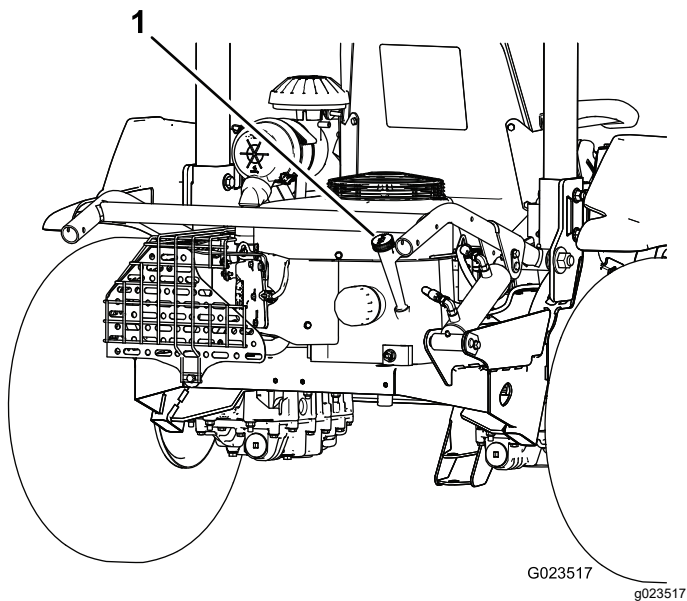
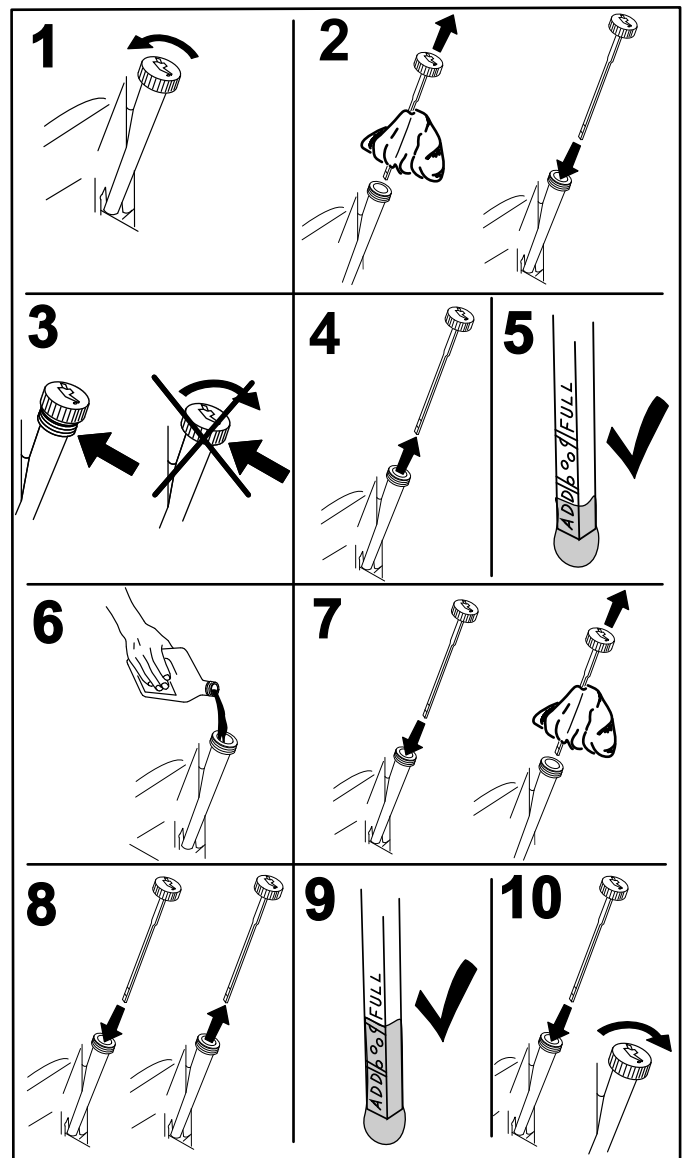

Figure 33
Figure 34
2. Remove the dipstick (Figure 33) and wipe it with a clean cloth (Figure 34).